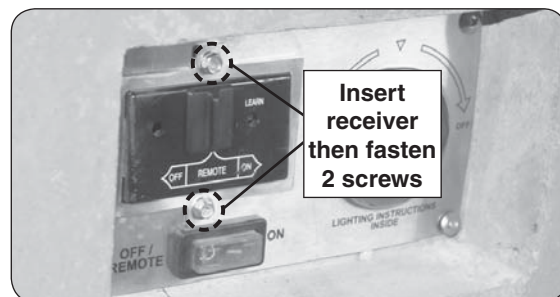

Fig. 27-1 Remove remote receiver assembly
5. Use a $\frac{1}{4}$ " nut driver to unfasten the remote receiver bracket assembly found on the control panel (2 screws). Then carefully remove the assembly. See Fig. 27-1.